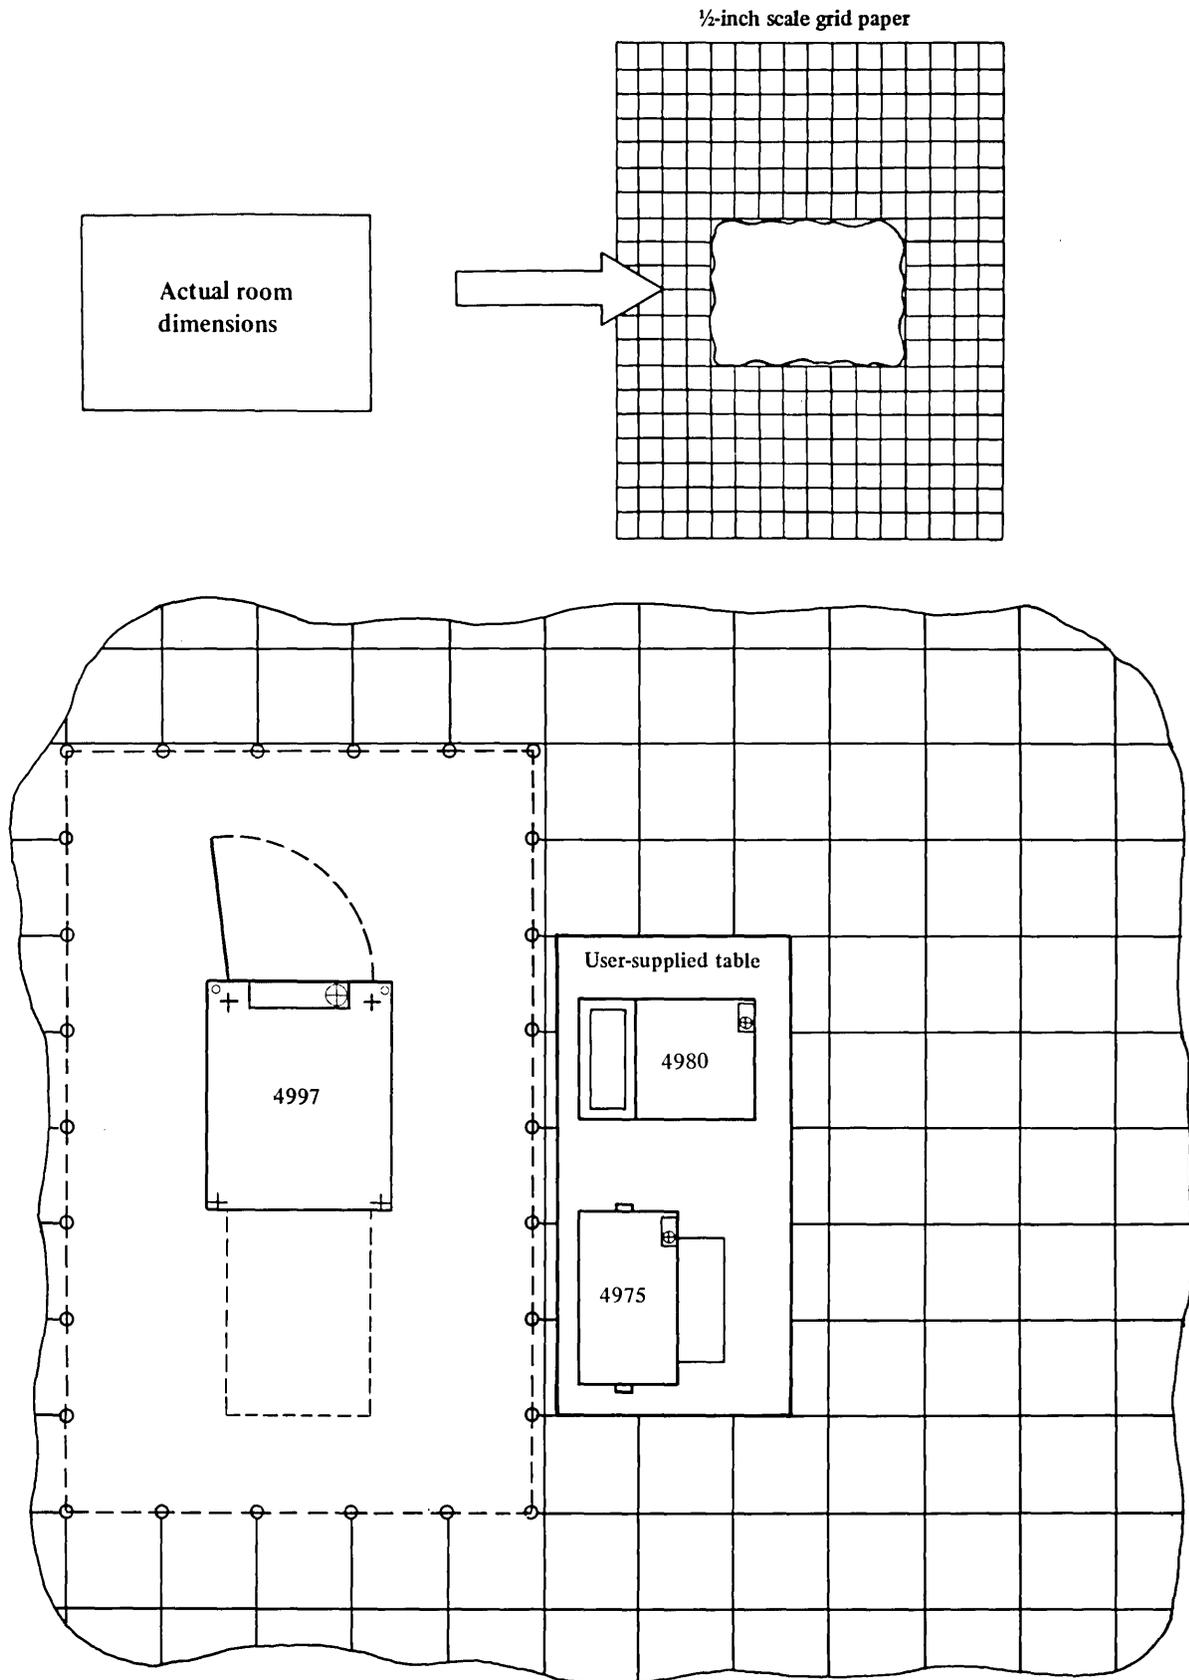

Figure 2-3. Sample floor layout for single rack enclosure
The sample floor-layout plans shown in this chapter (Figures 2-3, 2-4, and 2-5) are in English units (1/2 inch = 1 foot). A 1/4 inch = 1 foot and a 1/2 inch = 1 foot layout template is provided in chapter 9 of this manual.
8. See Figures 2-3, 2-4, 2-5 for sample floor layout plans.